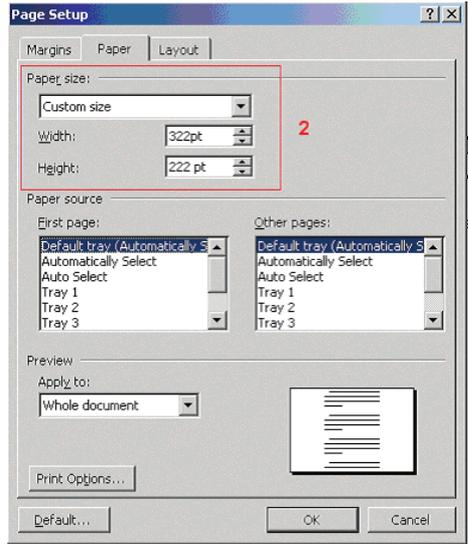
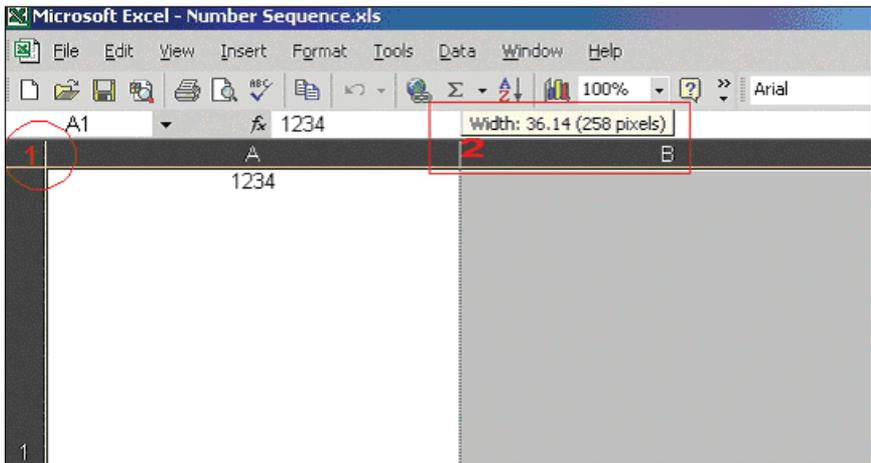

Fig. 2
Fig. 3
3. Next go to **File >>> Page Setup** and click on the **Paper** tab. If you started from a supplied template, make note of the width and height of the page as you will need to use these values to set the cell size in the Excel template. See Fig. 2. If you're starting from scratch, set the width and height to the desired size of the label.
3. Next, left-click and hold the column line between A and B. See Fig. 2. You can see a small box pops up giving you the pixel size of the width. You will want to set that value to the same width as your label. Do the same for the row height. See Fig. 3